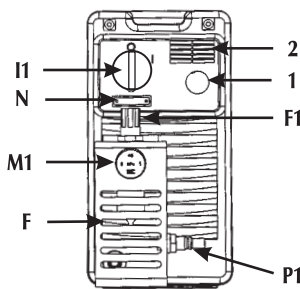

Fig. 2
Comes on with the start switch (Fig.2) "I1" in position "I" and indicates that the plant is on and there is voltage.
2.1.2 Rear control panel (Fig. 2)
- Connect up the compressed air supply with a 1/4 inch to the air inlet P1 in the filter unit F (Fig.2). The pressure must ensure at least 5 bars with a flow rate of at least 100 litres a minute.
If torch components are missing or have been assembled incorrectly, or the compressed air pressure is too low, or entirely lacking, leds L3 and L4 in figure 1 come on respectively to display the fault. The generator is shut down until the fault is put right. Press the gas test pushbutton (T1 in Fig 1) in order to remove residual impurities from the compressed air circuit, then lift and turn the knob to adjust the pressure (F1 Fig.2) until the manometer M1 shows a pressure reading of about 5 bars (carry out the operation keeping the gas test button pressed down, so as to make the adjustment with air circulating in the piping).